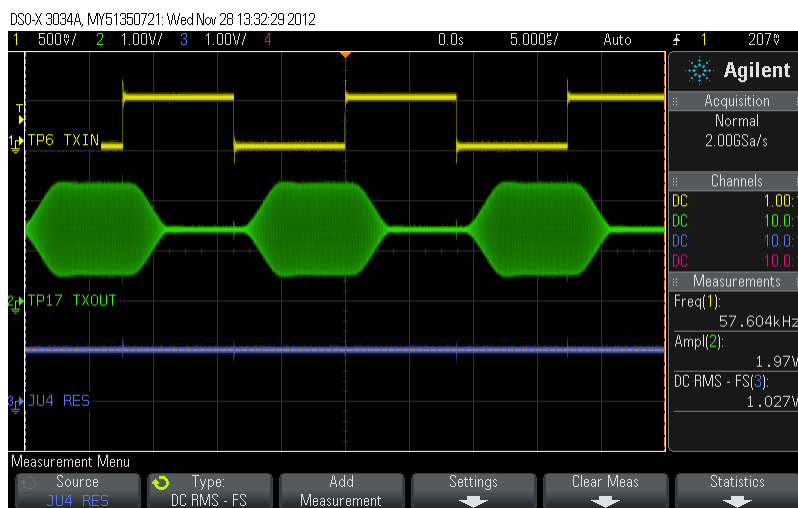

Figure 4. Time Domain Waveforms for 115.2kbps Transmission
10. Example waveforms for a 115.2kbps setting are shown in Figure 4.